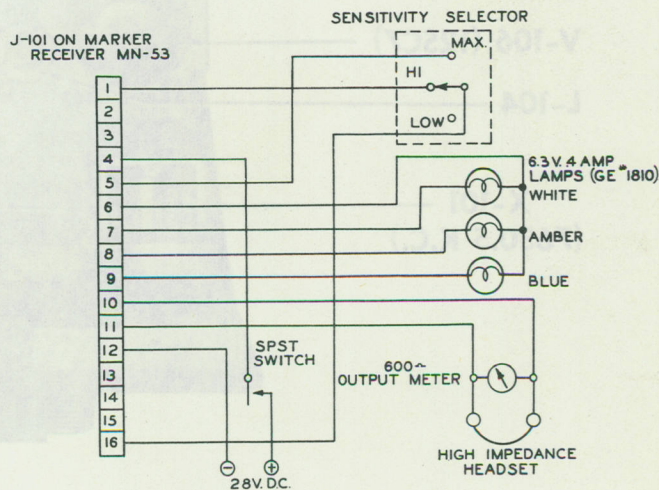

Figure 1-2. Marker Receiver Output and DC Input Connections for Test Set-Up
- e. Test set-up per figure 1-2.